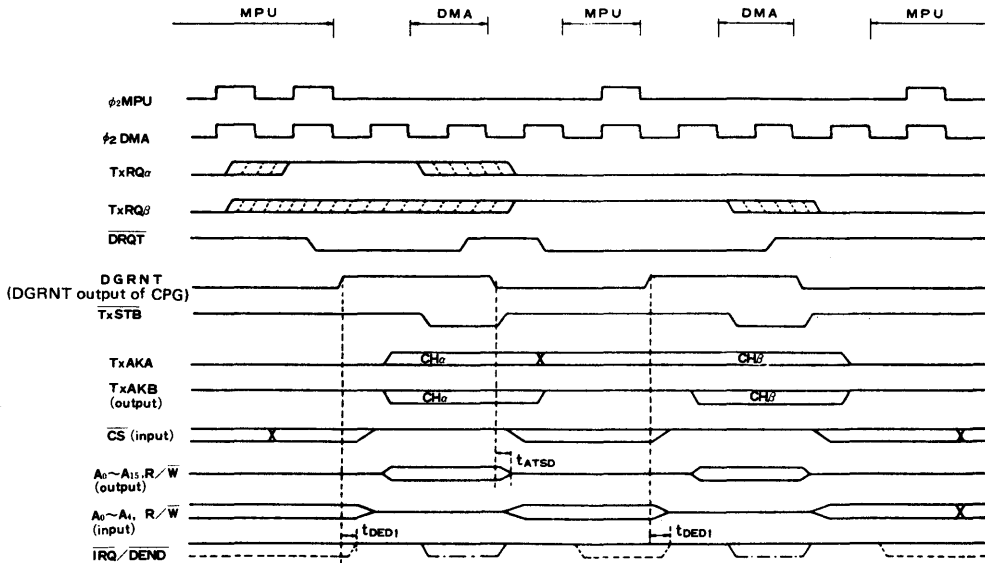

Figure 24 Channel Change (TSC Mode  $\rightarrow$  TSC Mode)
- (2) From TSC mode to TSC mode (Fig. 24)
The timing in the case where the next byte is transferred without changing the channel is shown in Fig. 26. This is the case of HALT → HALT mode. In this case, the bus control returns to MPU, before the next byte is transferred. In the case of TSC → TSC mode, its timing is almost the same as than in Fig. 24, that is, after 1-byte transfer has completed, MPU executes the Instruction Cycle for one clock and then DMAC executes 1-byte transfer again.